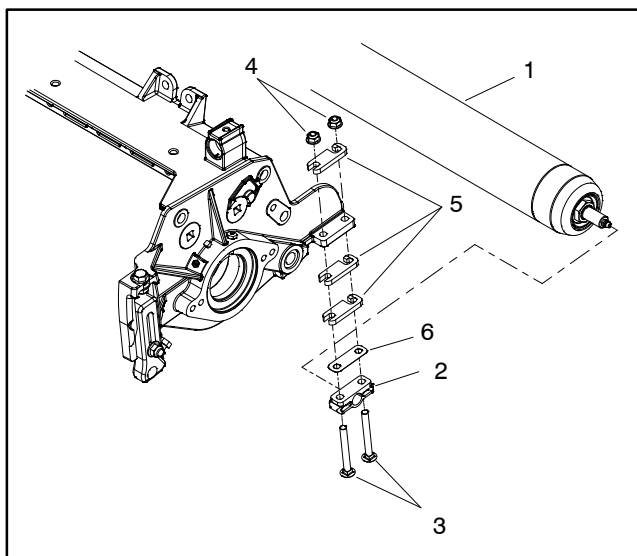

Figure 19
7. If rear roller is still not level after adjusting both side plates, check to see if cutting reel is tapered (see Preparing Reel for Grinding in the Service and Repairs section of this chapter). If cutting reel is not tapered and rear roller is not level, a 0.010" shim (part number 107-4001) is available to allow additional rear roller adjustment. Use the shim on one side of the rear roller and install it between the rear roller bracket and roller shim (Fig. 19).